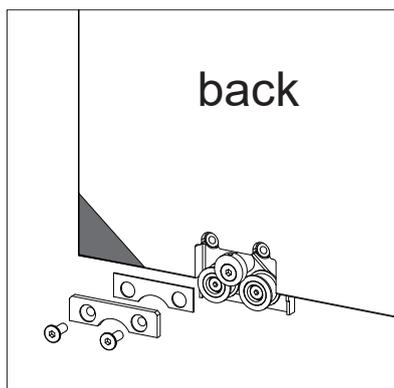

Fig 5.2
2. Install the **Rollers [02]** from the front of the **Door [07]**. (Fig 5.2, Fig 5.3)
3. Install **gaskets** and **clips** to the **Rollers [02]** from the back of **Door [07]**. Secure the **Rollers [02]** with **screws**. (Fig 5.2)